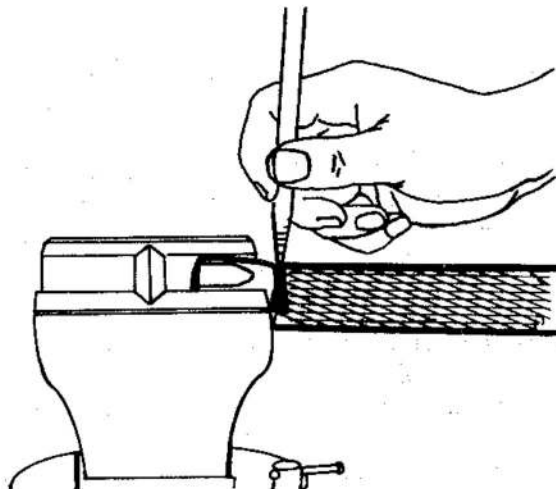

Fig 13 Marking the hose for check of push out
16.2 Mark the hose with tape, or a painted or grease pencil line, at the point where the socket end sits after being properly installed (fig 13). This marking is important as it is used to check the hose for push out while fitting the nipple.